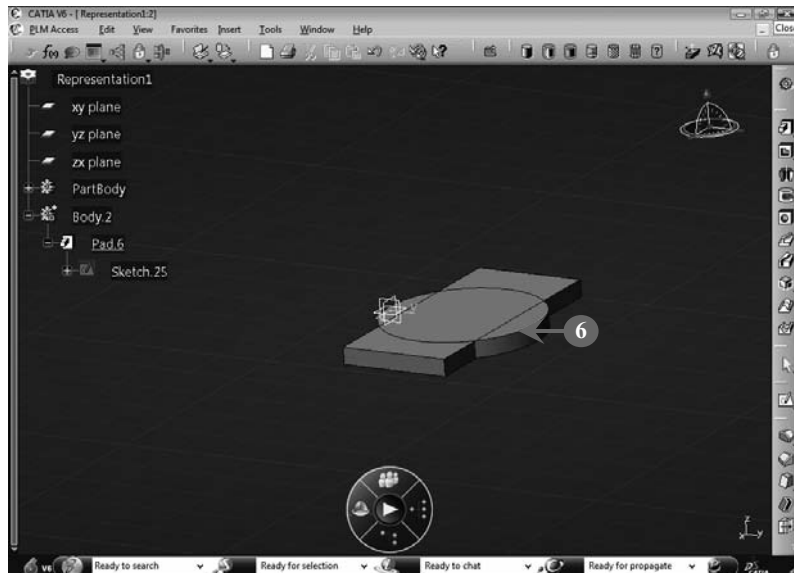

FIGURE 3.126
6. *Create* the final solid model using the pad feature. The final sketch with the additional solid body added is shown in **Figure 3.126**: